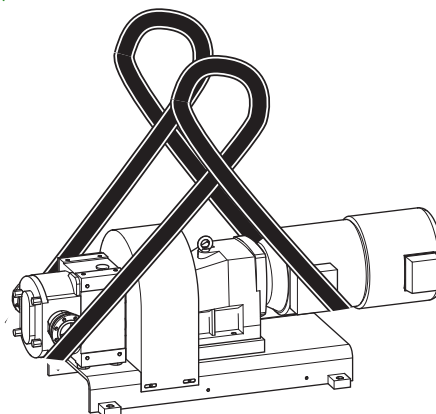

Fig. 10 Moving with round sling
Wrap the round sling around the gear motor; see Fig. 10, "Moving with round sling," page 10.
2. Wrap the other end of the round sling around the pump casing; see Fig. 10, "Moving with round sling," page 10.